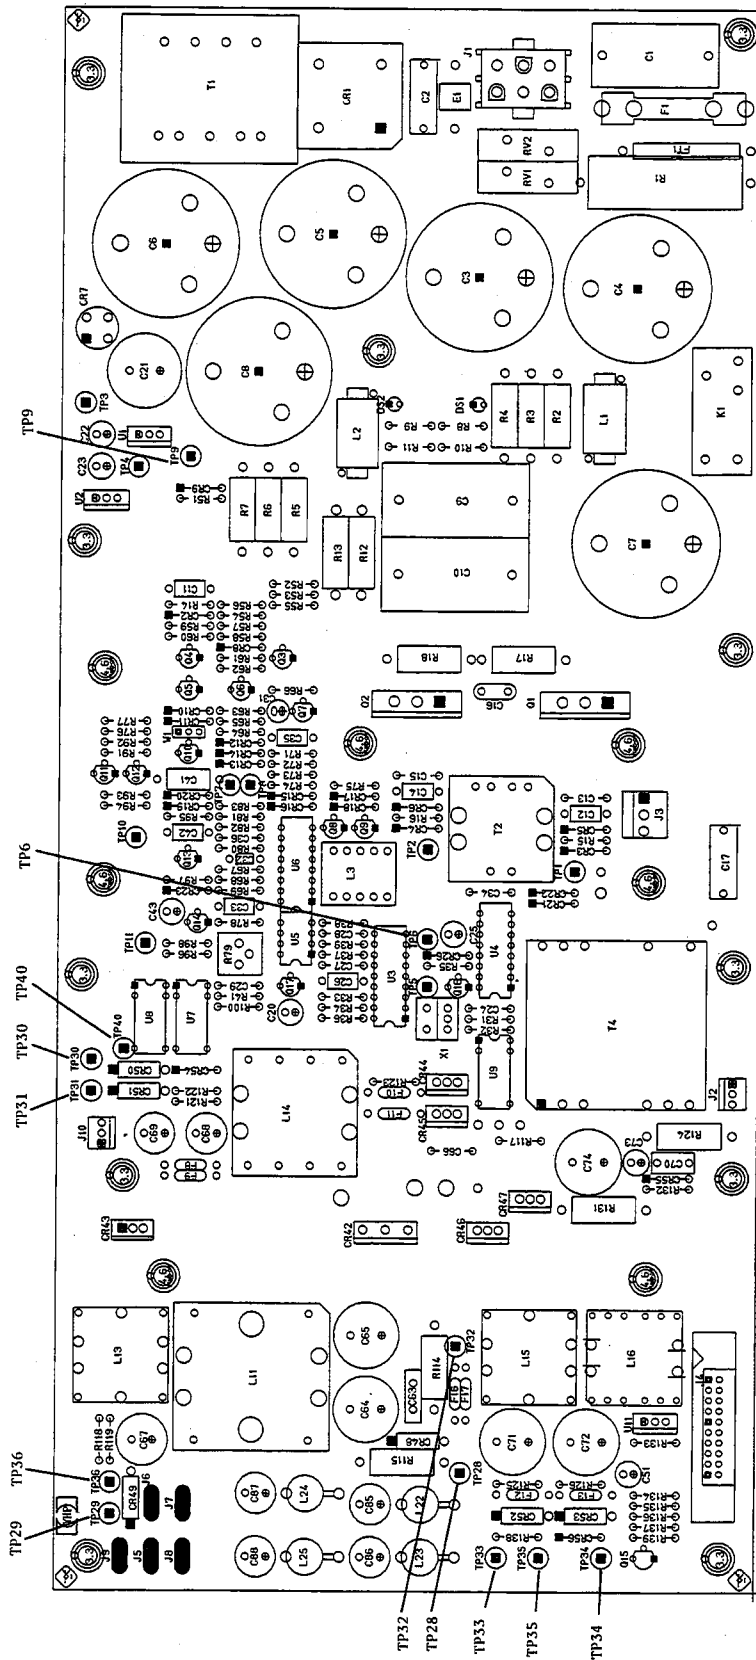

Figure 5-4. A1 Power Supply Component Locations
Figure 5-4 shows a block diagram of the power supply. The A1 board (power supply) includes all the primary circuit and the secondary circuit for the A2 board and the A4 board. The A4 board (digital control and power supply) includes the secondary circuit for the A3 board. The following describes the main functions of the power supply.
2. Use a DVM to make sure that voltages E1 through E11, shown in Figure 5-4, are within the limits listed in Table 5-1. The test point locations are shown on in Figures 5-4 and 5-5.